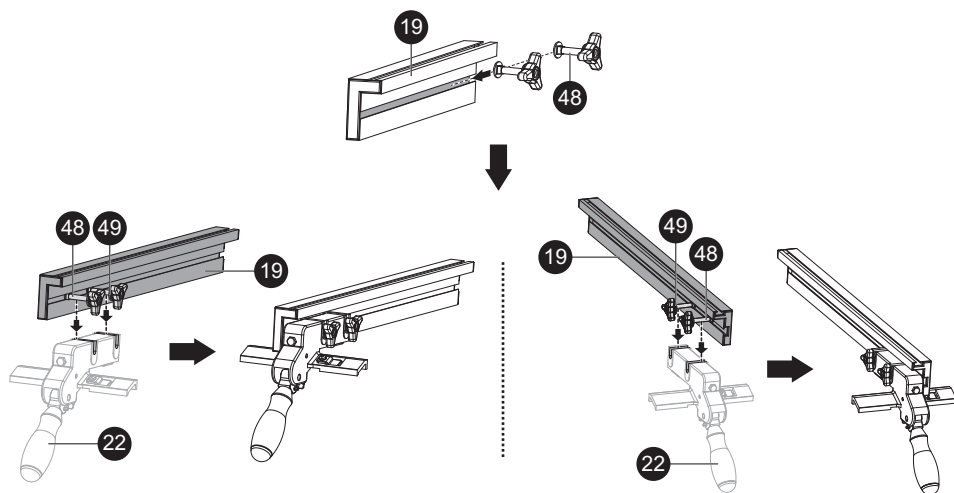

Fig. 4c
- > Slide the two knurled screws [48] into the slot of the rip fence. Turn the locking knob clockwise to tighten the rip fence locking handle [22] on the rip fence [19] with the flat washers [49] and knurled screws [48]. Rip fence locking handle [22] can be mounted on left or right of the rip fence [19] as shown in Fig. 4c.